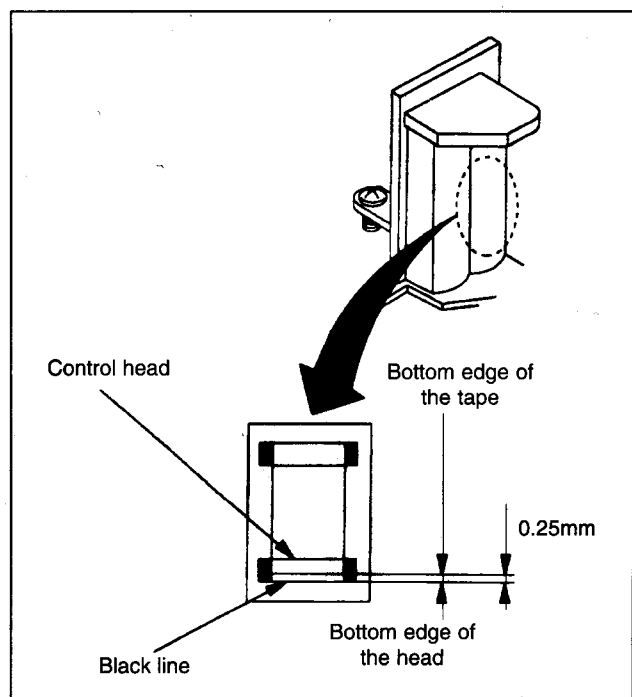

Fig. M15
- Adjust for maximum output voltage by means of the height adjustment screw (see fig. M15).
- Adjust to maximum output voltage by means of the azimuth adjustment screw. (fig. M15)